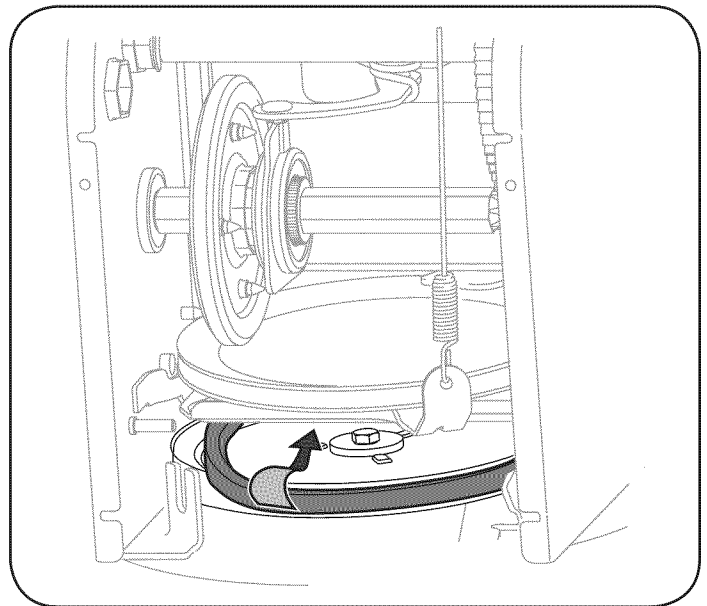

Figure 26
- Remove the belt from around the auger pulley, and slip the belt between the support bracket and the auger pulley. See Figure 26.